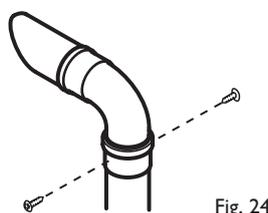

Fig. 24
14. Fit the  $93^{\circ}$  elbow/plume outlet and secure with the two remaining screws supplied. Ensure the plume outlet is at least  $45^{\circ}$  to the wall and that the 'peak' is uppermost (Fig. 24).